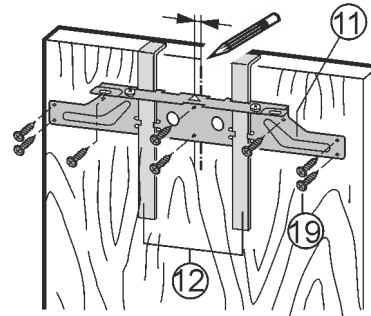

Fig. 30
- Align the crosspiece Fig. 30 (11) to the middle of the door.
- Left strip: Move the crosspiece Fig. 30 (11) 6 mm to the left.
- Right strip: Move the crosspiece Fig. 30 (11) 6 mm to the right.